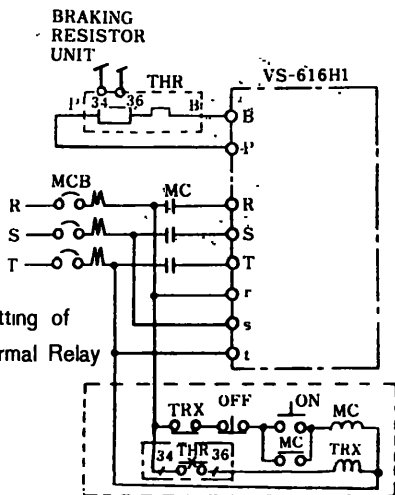

Fig. 6.9 Setting of MC and Thermal Relay
(2) When using an H Series unit with the braking function, the use of an MC is imperative. Even when the braking power transistors fail, the thermal relay in the braking circuit will protect the braking resistor against burning (Fig. 6.9).